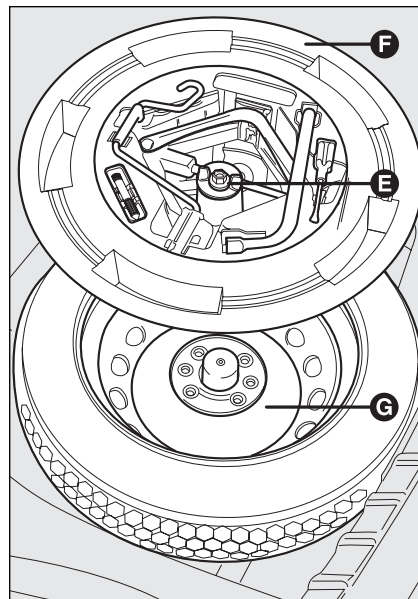

fig. 11
- Stow the space-saver spare wheel **G**-fig. 11 in the space provided in the boot;